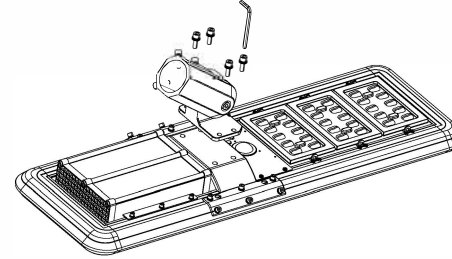

Figure 1
1. Use an 8MM hex wrench to attach the sliding clamp to the fixture. (Figure 1)